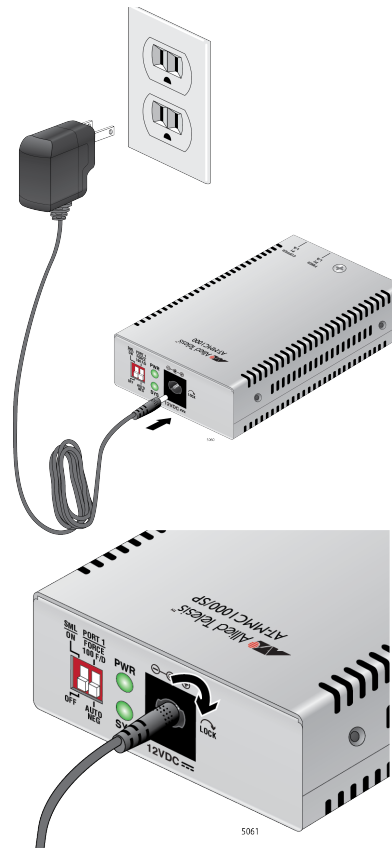

Figure 13. Connecting 12VDC Powered Unit
1. Plug the DC of the external power adapter to the power receptacle connector labeled 12VDC on the back panel of the media converter and turn the cord clockwise one-quarter turn to lock, as shown in Figure 13.